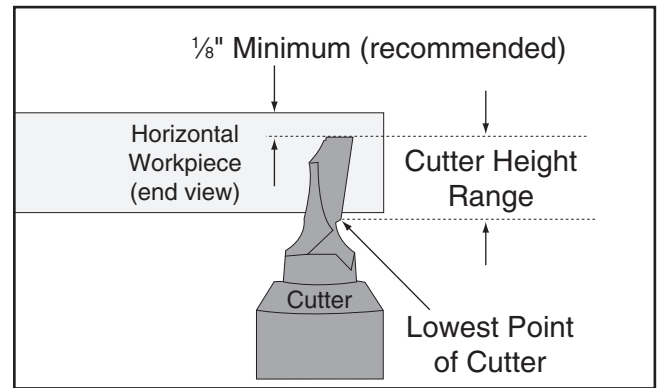

Figure 31. Understanding the cutter height range compared to the workpiece.
The cutter height range is restricted by the size of the cutter (see **Figure 31**). The lowest point of the cutting edge on the cutter should never be set above the bottom of the workpiece.
- Use a 6mm hex wrench to adjust the cutter up or down. Leave at least $\frac{1}{8}$ " of material between the top of the board and the top of the cutter (see **Figure 31**).